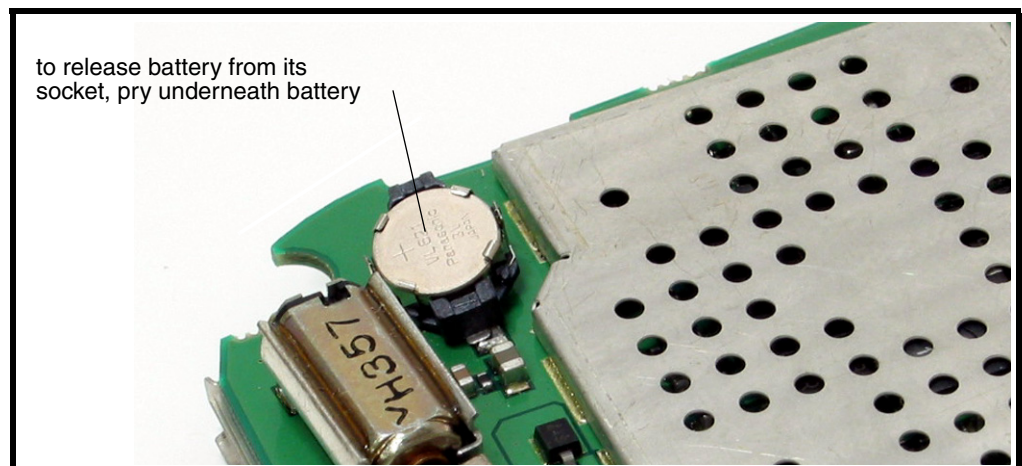

Figure 17. Removing the Real-Time Clock (RTC) Battery
2. Use the pointed end of the disassembly tool to gently pry the RTC battery from its socket on the back of the transceiver board, as shown in Figure 17.